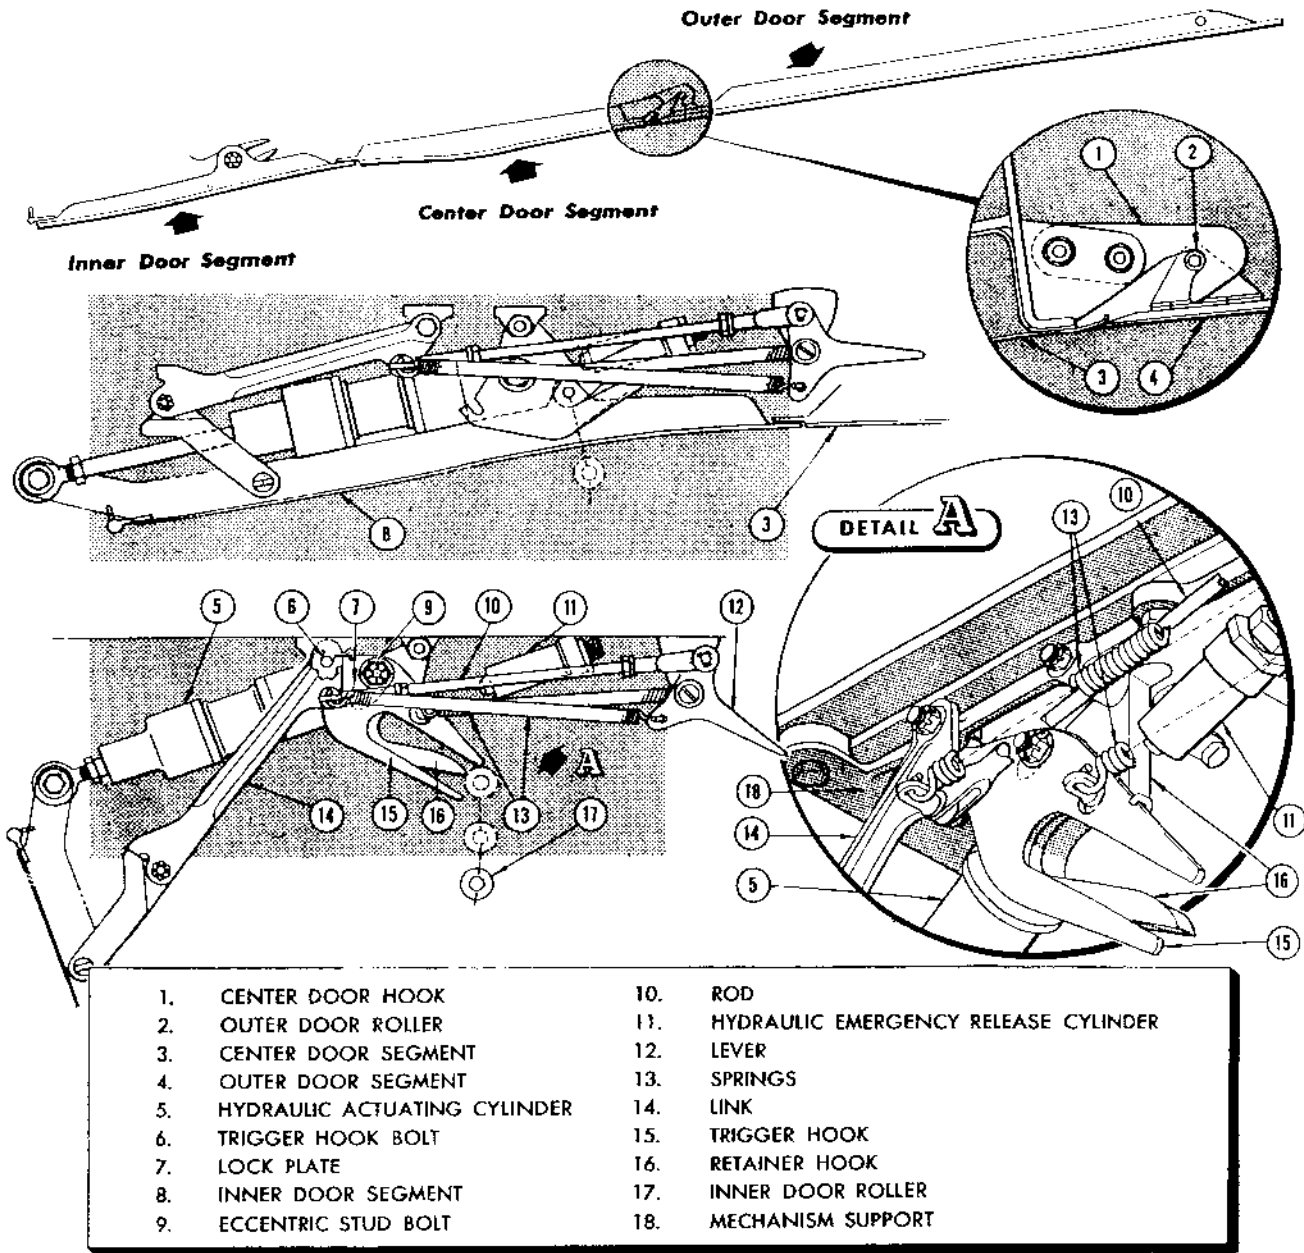

Figure 70 — Main Gear Door Trigger Assembly
(1) DESCRIPTION. — The enclosure doors for each main gear consist of an inner segment hinged parallel to the airplane center line, a center segment attached to the shock-strut lower end, and an outer segment hinged on the wing and connected to the shock strut by a spring-loaded actuator rod. The inner door segment is hydraulically operated by an actuating cylinder and mechanical linkage, in automatic sequence with the gear operation. A separate hydraulic actuating cylinder is installed for emergency release of the inner door segment.
(2) OPERATION. (See figure 70.)—The center and outer door segments move with the gear to their closed positions before the inner door segment closes. During retraction, a hook on the center door engages a